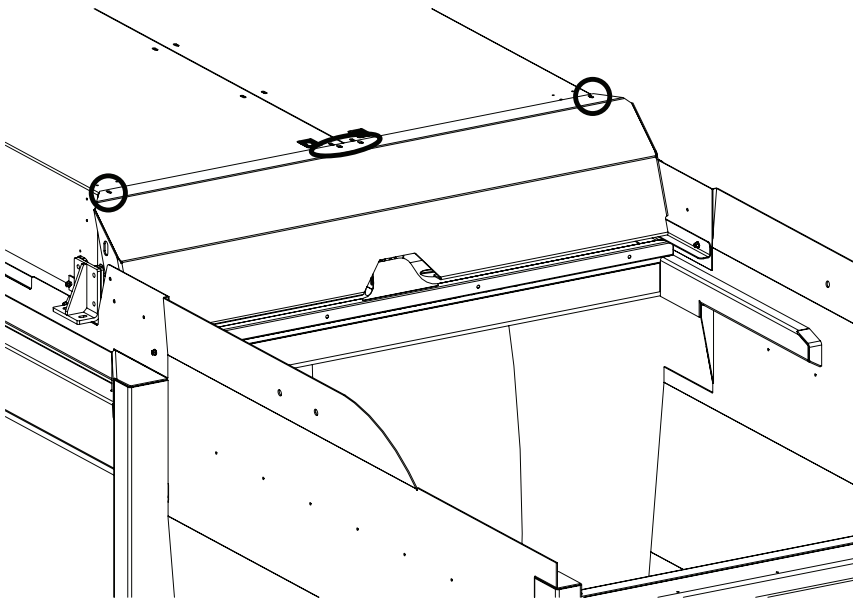

Figure 4
7. Install four bolts (P/N 1243637) across the top of the refuse deflector weldment to secure the weldment to the CNG cover (location shown in Figure 4). Tighten the bolts enough to hold the deflector in place, but do not over-tighten. The bolts are being installed at this time to keep the deflector aligned during the next few steps.
17. Reinstall four bolts (P/N 1243637) across the top of the refuse deflector weldment to secure the weldment to the CNG cover (location shown in Figure 4).